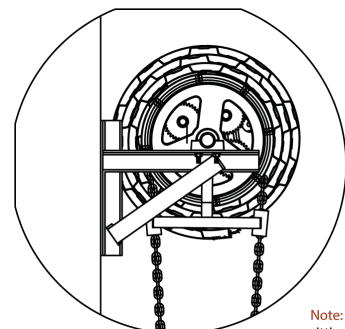

Figure 4.3
- Space the door such that it sits on the brackets as shown in Figure 4.3.